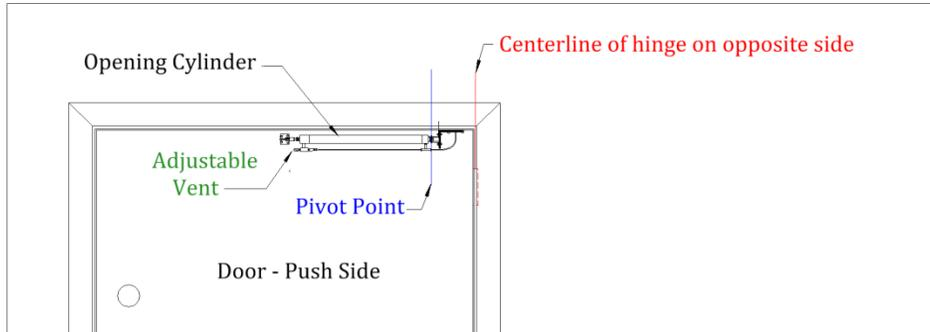

Figure 3
**BRACKET END:** Locating the rear pivot point for the cylinder is very important to insure proper operation. The dimensions are critical to enable the door to open 90 degrees. Note that the cylinder mounting bracket is drilled to accommodate both right and left hand doors. Note the installation landmarks in Figure 3 and reference instructions according to hinge type.